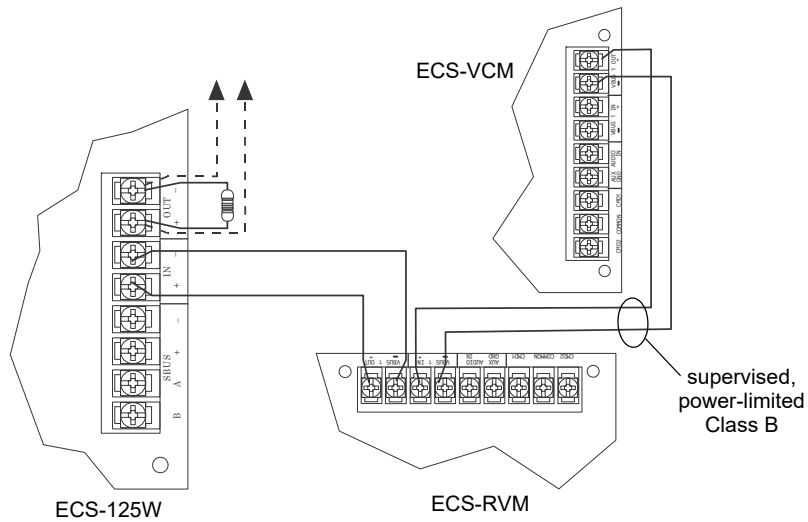
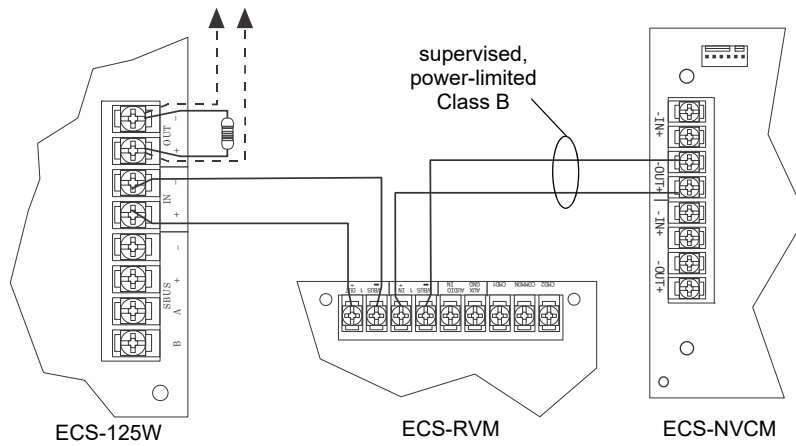

Figure 4.73 VBUS and ECS-125W Wiring for ECS-RVM using the ECS-VCN
Figure 4.74 VBUS and ECS-125W Wiring for ECS-RVM using the ECS-NVCN
4. Connect the ECS-RVM to the VBUS, ECS-125W, and ECS-VCM as shown in Figure 4.73 or the ECS-NVCM as shown in Figure 4.74.
- Disconnect any devices connected to the VBUS. Refer to Figure 4.73 and Figure 4.74.